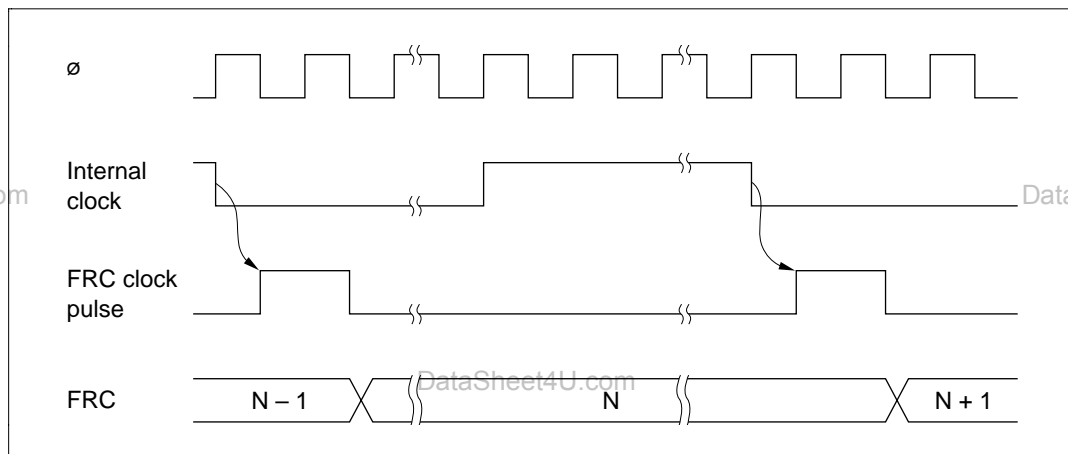

Figure 9-3 Increment Timing for Internal Clock Source
(1) Internal Clock Sources: Can be selected by the CKS1 and CKS0 bits in TCR. Internal clock sources are created by dividing the system clock (ϕ). Three internal clock sources are available: $\phi/2$, $\phi/8$, and $\phi/32$. Figure 9-3 shows the increment timing.